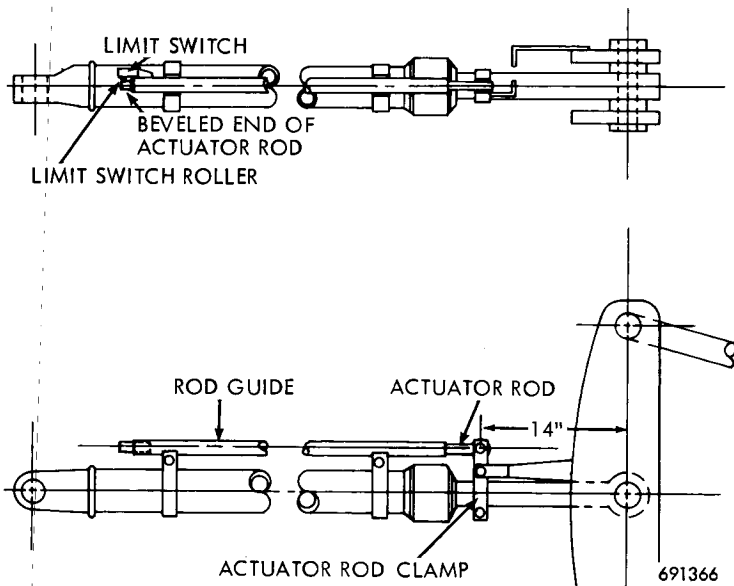

Figure 12
1. With bucket flat on floor, make sure actuating rod clamp is positioned as shown in Figure 12.